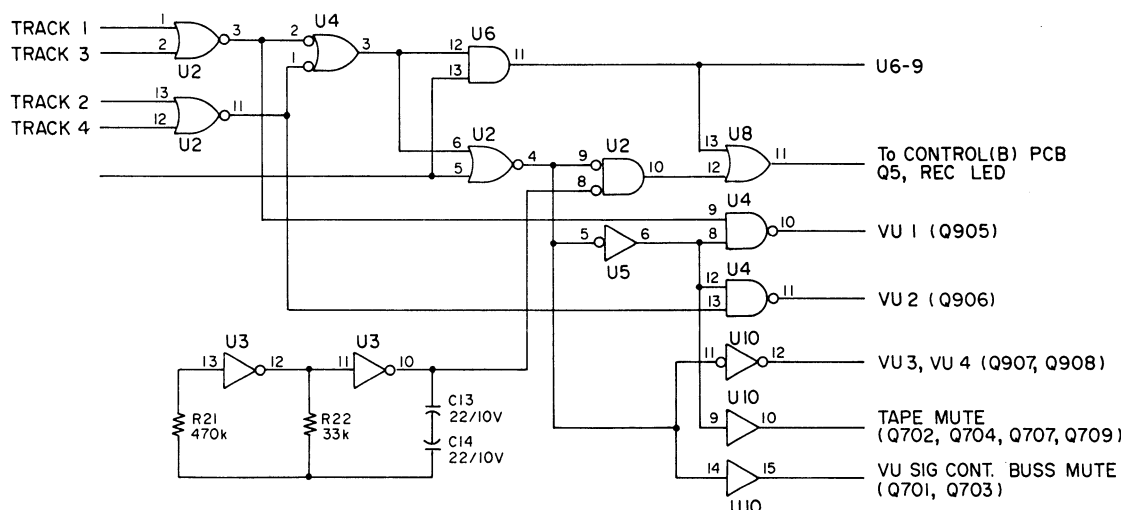

Fig. 4-9
The blinking signal to indicate REC STANDBY is obtained from the oscillator consisting of U3-12 and U3-10. As this oscillator is operating continuously, a blinking signal is constantly applied to input pin (8) of U2-10. As U2-10 is a NAND gate, the blinking signal is output from pin (10) when input pin (9) goes to "L". This "L" signal is obtained whenever either input pin (6) or (5) of NOR gate U2-4 goes to "H". In other words, the LED will blink whenever the transport is put in the REC mode or any one of the RECORD SELECT button is depressed. Refer to Fig. 4-9.
On the other hand, the "L" signal from U2-4 passing through inverter U5-6 changes the "L" applied to input (12) of U4-11 to "H". Therefore, as input pin (13) of U4-11 is at "H", the output goes to "L" thus switching off Q906 and turning off the lamp of VU 2. At the same time, as the signal passing through buffer U10-10 goes from "L" to "H", it activates transistors Q702, Q704, Q707, and Q709 in the Record/Playback amplifier PCB thus muting all signals to the VU meters. Refer to Fig. 4-9.